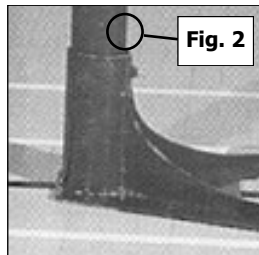

Fig. 2
1. Unpack posts and bases, select the **WINCH POST** and slide the clamping plate into the bottom of the post on the winch side (final location as Fig.2).